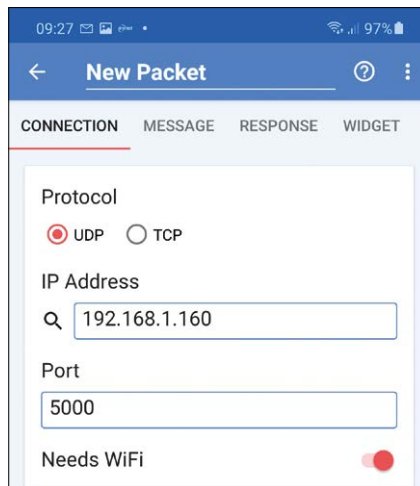

Figure 10.8: Configuring the app.
- Click the gear symbol and set the Protocol to **UDP**, IP address to the **IP address** of your Raspberry Pi Pico (192.168.1.160 in author's Pico), and set the **Port** to 5000 as shown in Figure 10.8.